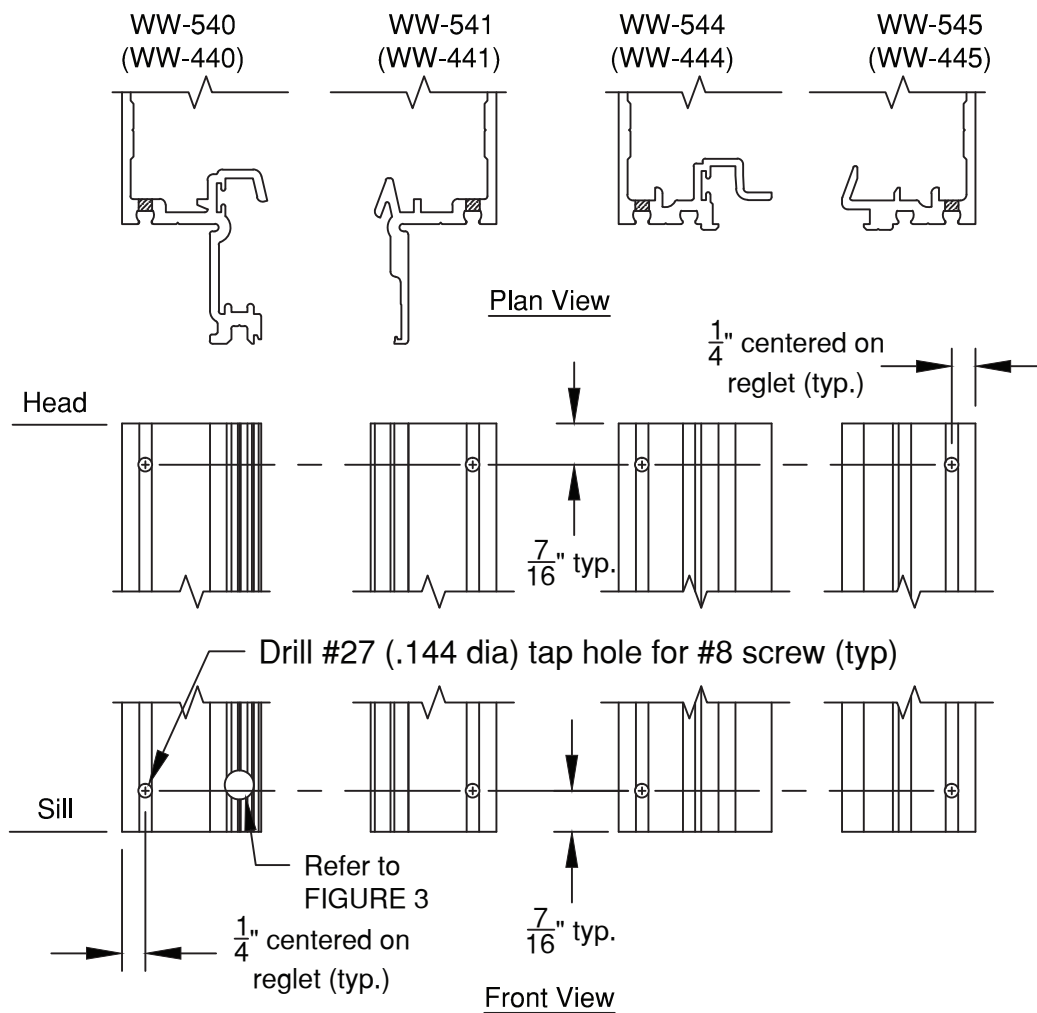

FIGURE 6
- 1.7 Drill a #29 (.136 dia.) hole at top and bottom in each half of the intermediate vertical mullions for the mullion cap. **SEE FIGURE 6.**